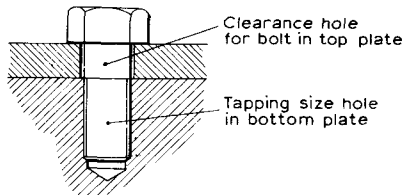

Fig. 4.104 Plates assembled by using screws
(1) Wherever possible a bolted joint should be prepared by marking out the holes in the top plate, clamping the plates together and drilling all the plates together. This method ensures that the holes line up.
(2) When screws are used for assembling, a clearance hole is needed for the bolt in one plate, whilst a hole for tapping is needed in the other, Fig. 4.104. The top plate is marked out for drilling the holes and the plates then clamped together. Both plates are then drilled to the *tapping size* and taken apart. The holes in the top plate can then be opened out and the bottom plate tapped.